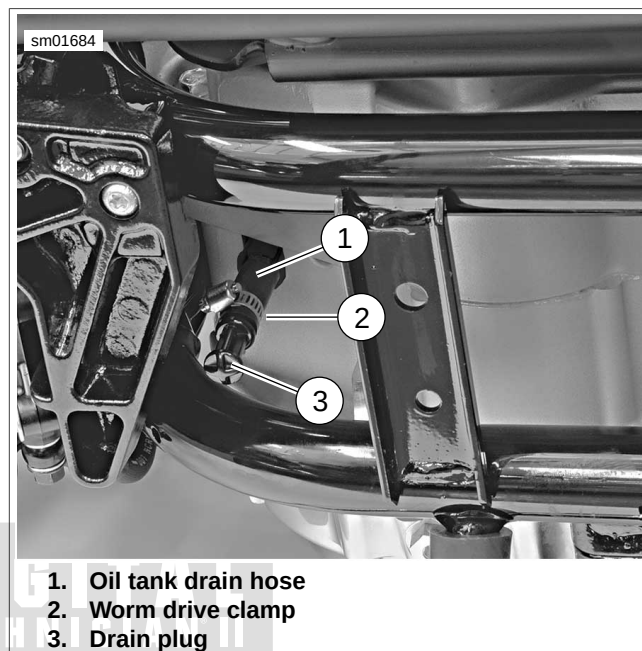

Figure 1-5. Oil Tank Drain Hose (typical; XL model shown)
- See Figure 1-5. Place a suitable container directly under the drain hose (1) at the bottom rear of the engine crankcase. The container must be able to hold approximately 4.0 quarts (3.8 liters).
- Loosen worm drive clamp (2) and pull drain plug (3) from end of drain hose. Completely drain engine oil from oil tank. It is not necessary to drain engine crankcase.